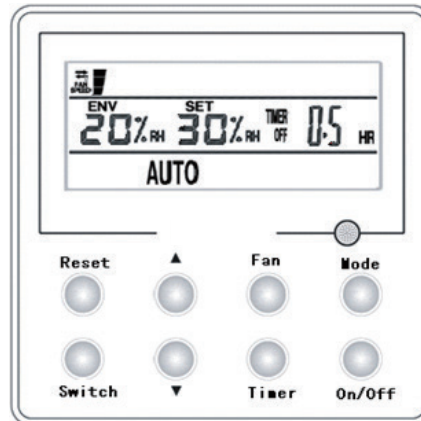

Fig.6
■ Reset/ Switch Function Setting (Fig.6)